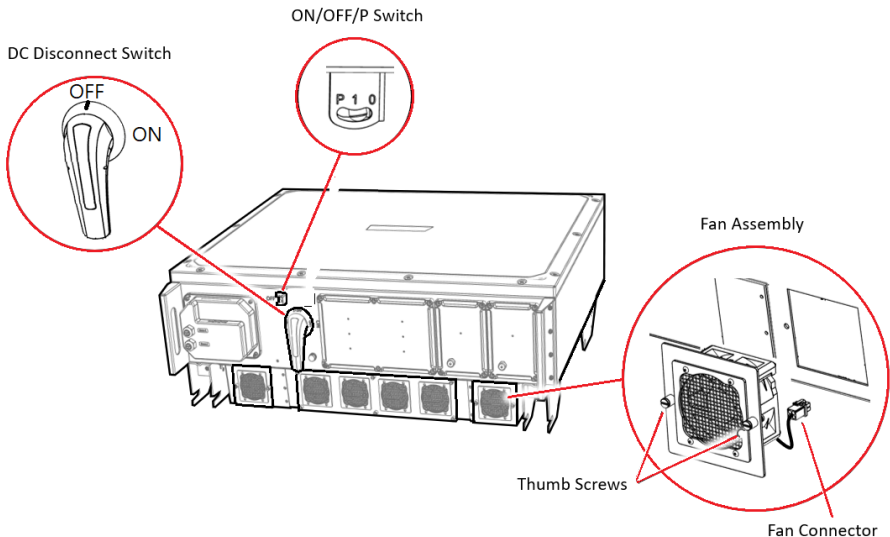

Figure 36: Removing the Fans
4. Release the two Thumb Screws securing the Fan Assembly to the inverter (see *Figure 36*).
10. Turn ON(I) the ON/OFF/P Switch of the inverter.